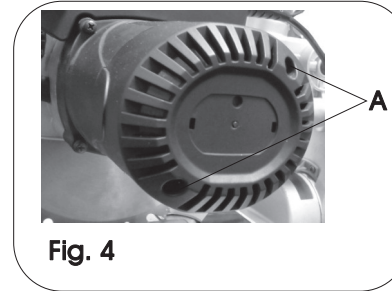
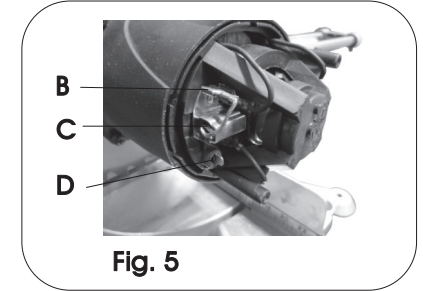

Fig. 4
Fig. 5
Remove and check the carbon brushes regularly (normally after 50 hours of use). The carbon brushes are installed inside the motor housing. Using a screwdriver, remove the 2 pan head screws (A) Fig.4 that hold the motor housing cap in place. Once the motor housing cap is removed, release the carbon brush (C) Fig. 5 from the holder, lower the retaining spring (D). Disconnect the carbon brush wire from the terminal (B), remove the carbon brush from the motor housing and inspect it. Repeat this step for the second carbon brush. Carbon brushes need to be replaced once they wear